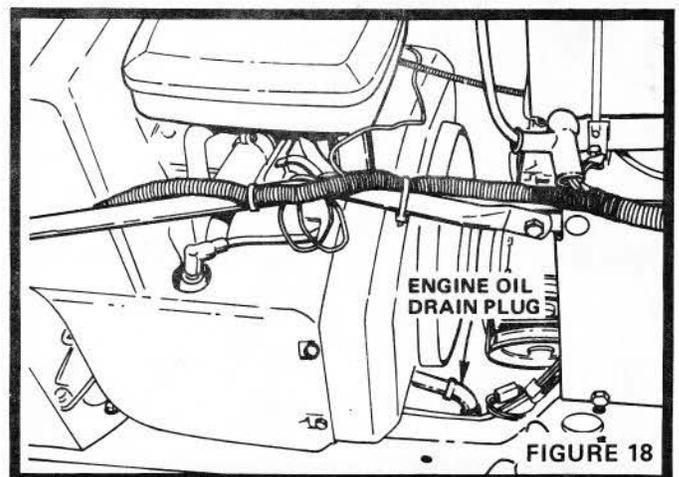

FIGURE 18
- Drain Oil with Engine warm. Unscrew Oil Drain Plug (Fig. 18) and catch Oil in a suitable container. Replace Plug.